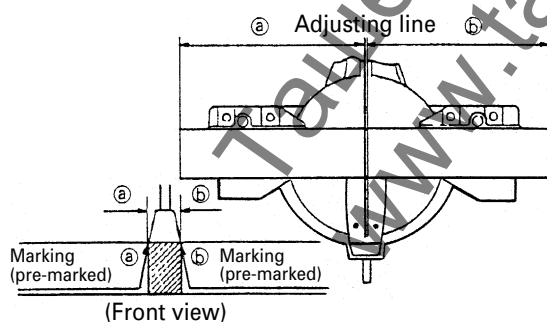

Fig. 21
- (1) As shown in Fig. 21 the width of the saw blade is the width of the cut. Therefore, slide the workpiece to the right (viewed from the operator's position) when length ⑥ is desired, or to the left when length ⑤ is desired.